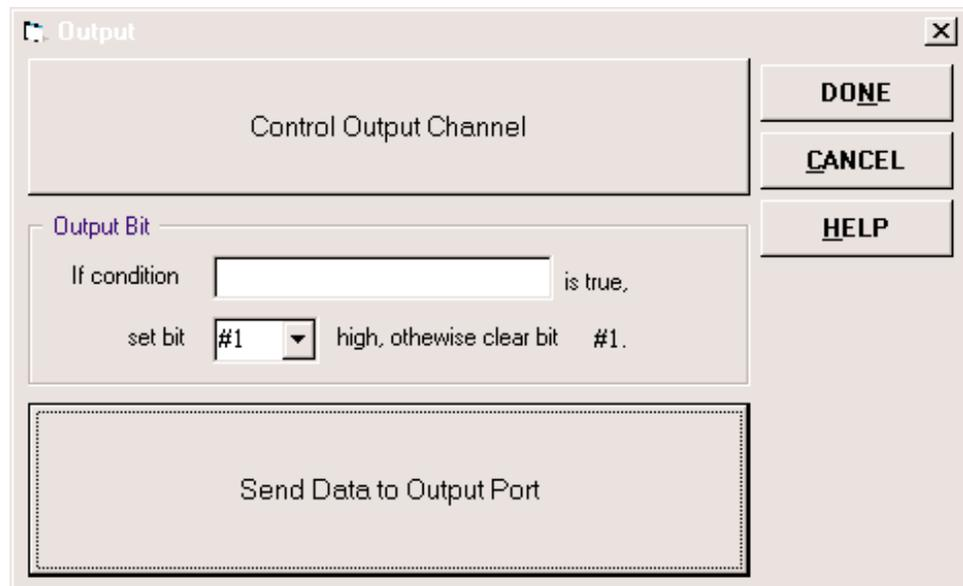

Figure 5.33 - Define Output Bit by Logical Expression
**Define output bit by logical expression: see Fig. 5.33.**